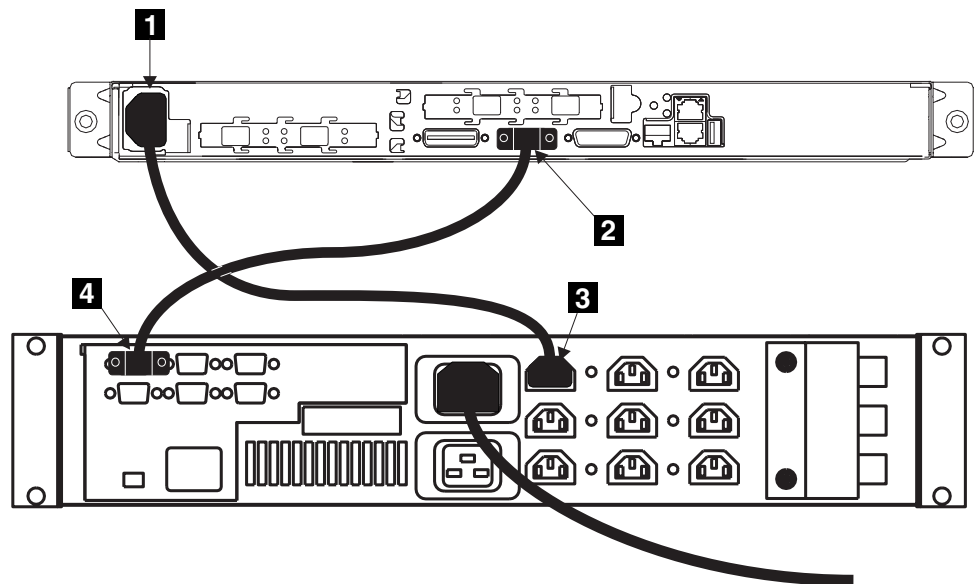

Figure 43. Connecting the SAN Volume Controller 2145-4F2 power cable to the 2145 UPS
1. At the back of the SAN Volume Controller 2145-4F2 node, as shown in Figure 43, plug a power cable into the power connector **1**.